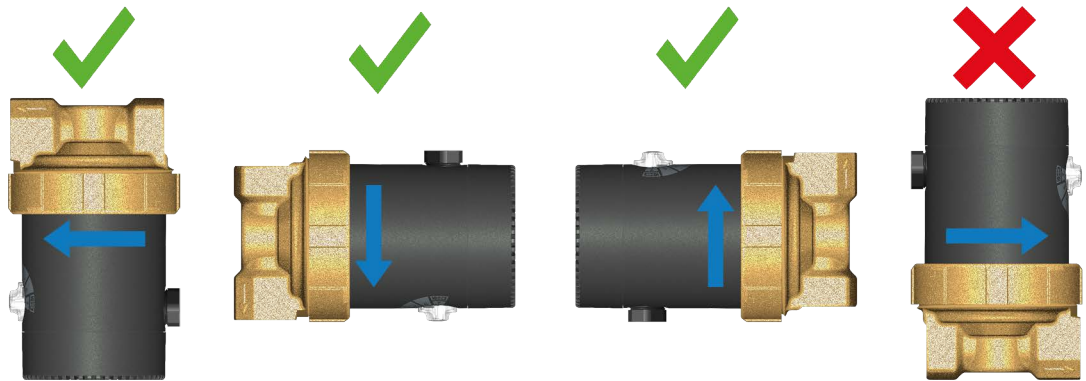

Figure 5
- Install in one of the permitted mounting positions (see **Figure 5** on page 16).